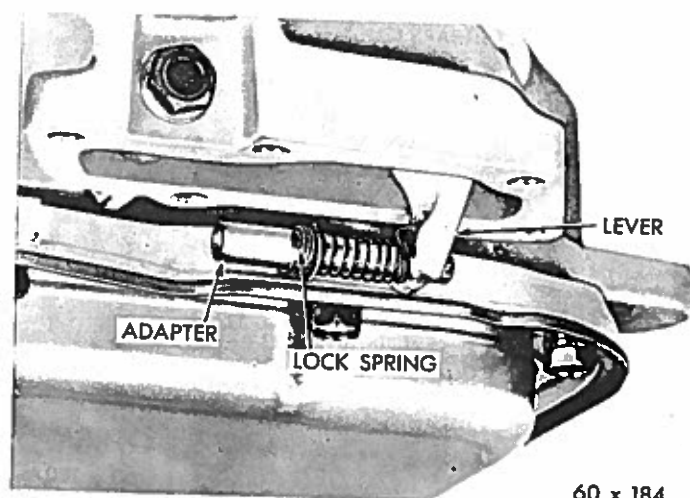

Fig. 36—Cable Adapter Attached to Parking Lock Lever
- (1) Remove the extension housing. See Paragraph 23.
- (2) To replace the parking lock sprag, refer to Paragraph 24.
- (3) Remove the parking lock cable adapter cover from bottom of the extension housing.
- (4) Carefully remove the cable adapter from parking lock lever (Fig. 36). Replace the spring on the adapter if it becomes distorted during removal.
- (3) Attach the cable adapter to parking lock lever. Make sure the adapter is attached exactly as shown in Figure 36. Place a new adapter cover gasket on the extension housing.
- (4) Insert small punch through cable opening in adapter cover and into end of adapter. Carefully lower the cover into position, feeding the adapter into cable opening in the cover. Install cover retaining screws and tighten to 150 inch-pounds torque.
- (5) Install the extension housing, transmission flange and connect the propeller shaft.
- (6) Connect the parking lock cable. See Paragraphs 10 and 15.